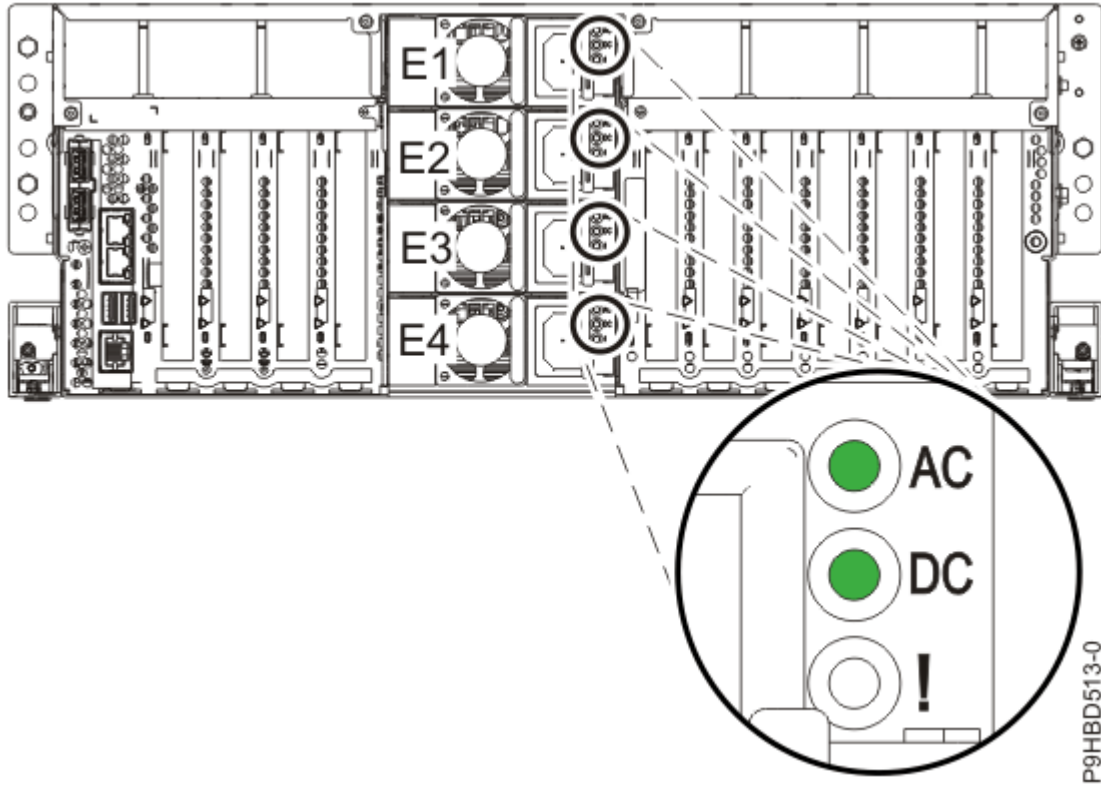
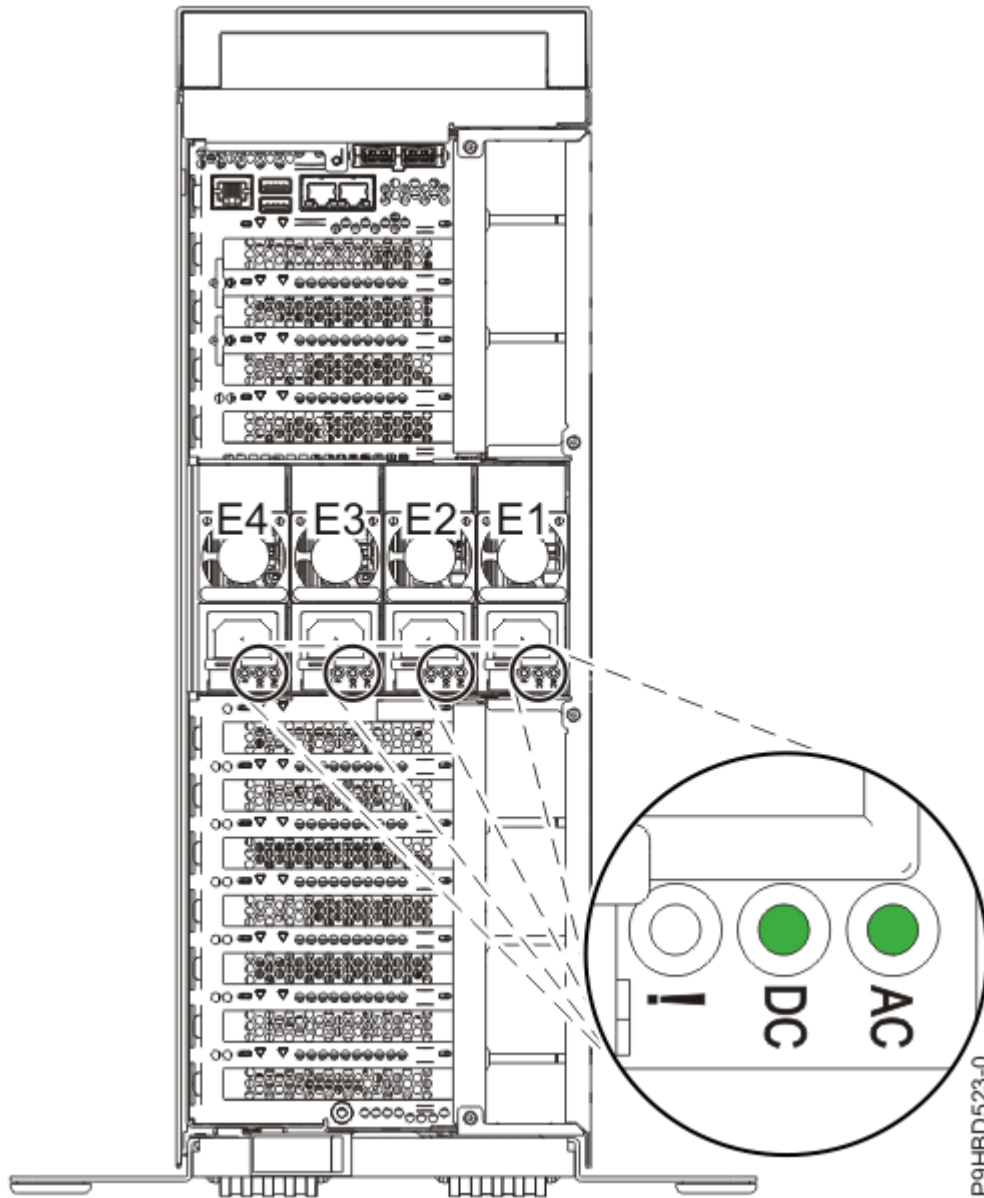

Figure 10. LEDs for a working power supply, rack-mounted system
Figure 11. LEDs for a working power supply, stand-alone system
5. Note the state of LEDs on the replaced power supply; see Figure 10 on page 13 or Figure 11 on page 14.